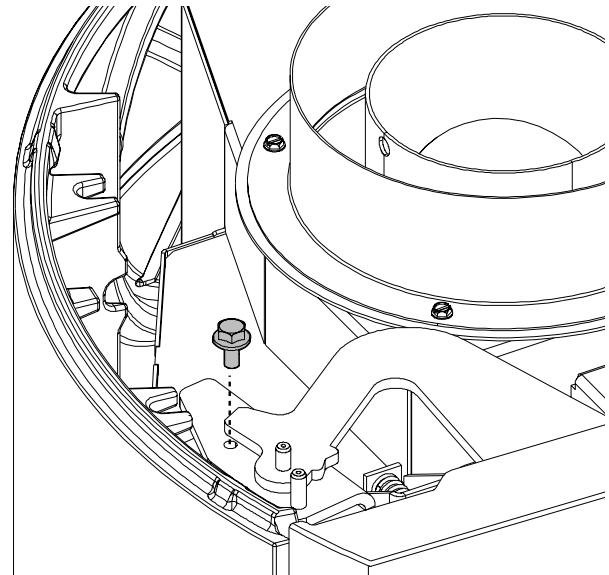

Figure 2.1 White Enamel stoves:
- Remove and discard the door-stop bolt from the hinge bar as shown in fig. 2.1.